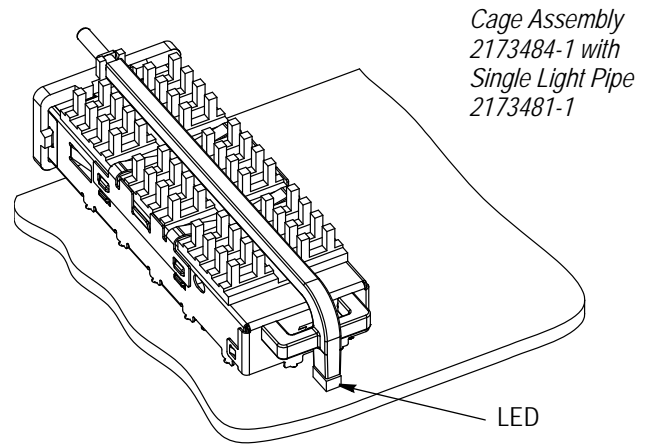

Figure 7
7. If applicable, mount the light pipe so that the pins on each arm fit inside the holes on the rear of the cage. This will require applying slight pressure on the arms to pinch the pins inward. The light pipe should be aligned with the length-wise slots in the heat sink, if a heat sink is installed. The single light pipe, 2173481-1, has a neck that snaps down into the light pipe bracket on cage assembly 2173484-1. The pc board end of the pipe should sit above the indicator LED on the board as shown in Figure 7.